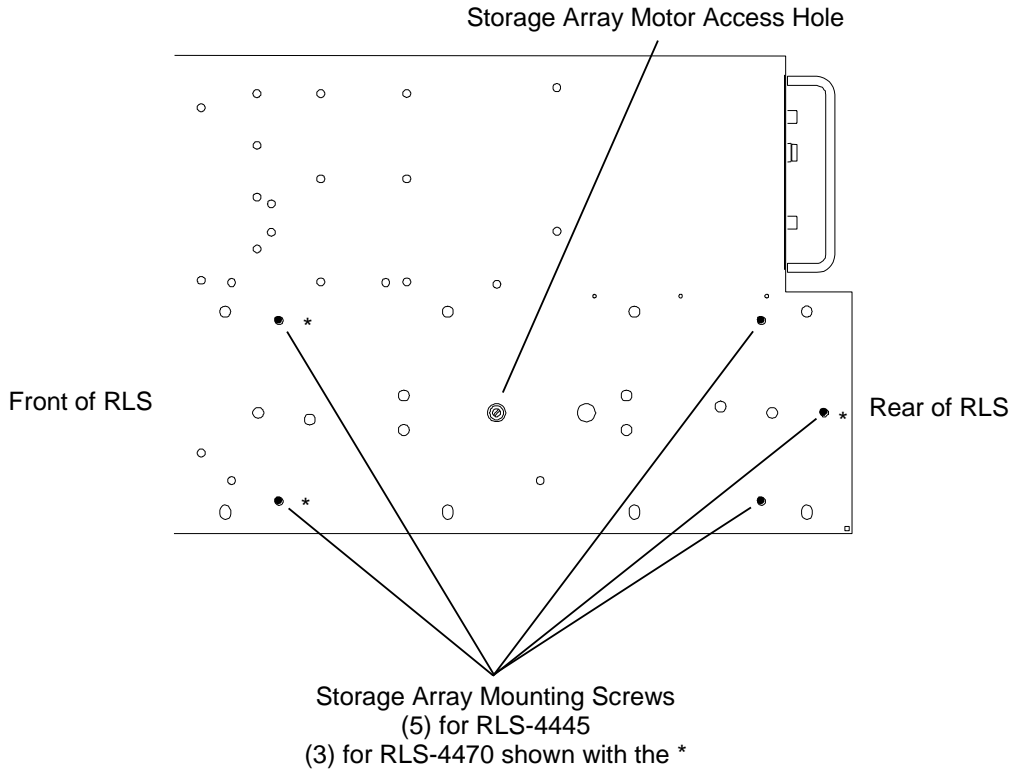

Figure 9-5 Storage Array Mounting Screws located on the Bottom of the RLS
13. There are five Storage Array mounting screws located on the bottom of the chassis. Using a No. 2 Phillips screwdriver, remove the screws as shown in Figure 9-5. If the RLS is on its side, hold the Storage Array Assembly in place with one hand while removing the final screw.
4. Using a No. 2 Phillips screwdriver, install three of the five mounting flat-head screws that were removed earlier to secure the 4470 Storage Array as shown in Figure 9-5.
10. There are five Storage Array mounting screws located on the bottom of the chassis. Using a No. 2 Phillips screwdriver, remove the screws as shown in Figure 9-5. If the RLS is on its side, hold the Storage Array Assembly in place with one hand while removing the final screw.
4. Using a No. 2 Phillips screwdriver, install three of the five mounting flat-head screws that were removed earlier to secure the Storage Array as shown in Figure 9-5.